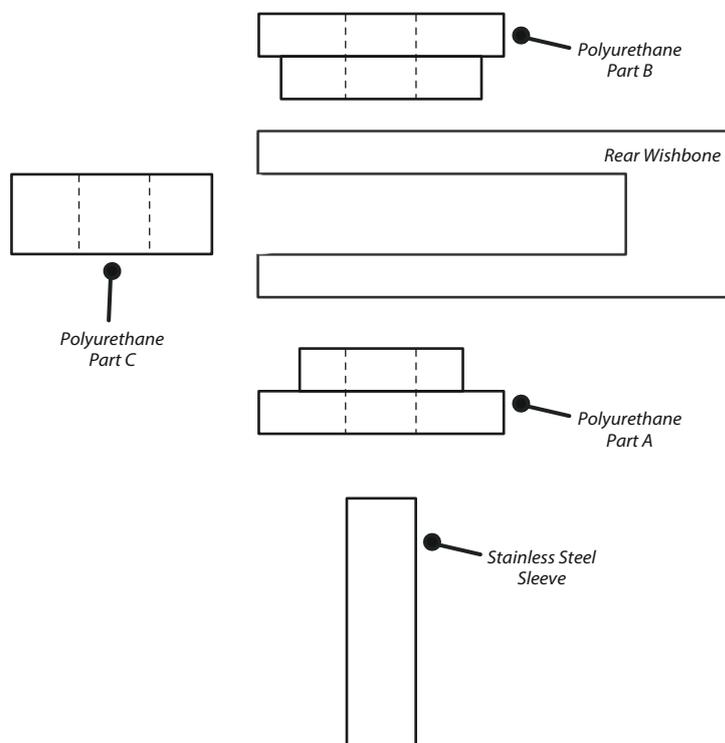

Figure 1
3. Push the polyurethane part C into the centre of the wishbone arm, as shown in figure 1. Ensure that the bore lines up with both holes in the wishbone.